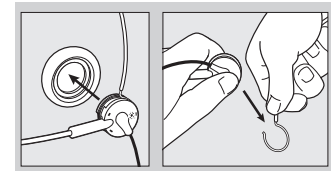

Figure 4-2. Removing Headband.
4. Pull up on the receiver and push down on the headband until the C-ring snaps off of the receiver housing (see Figure 4-2).